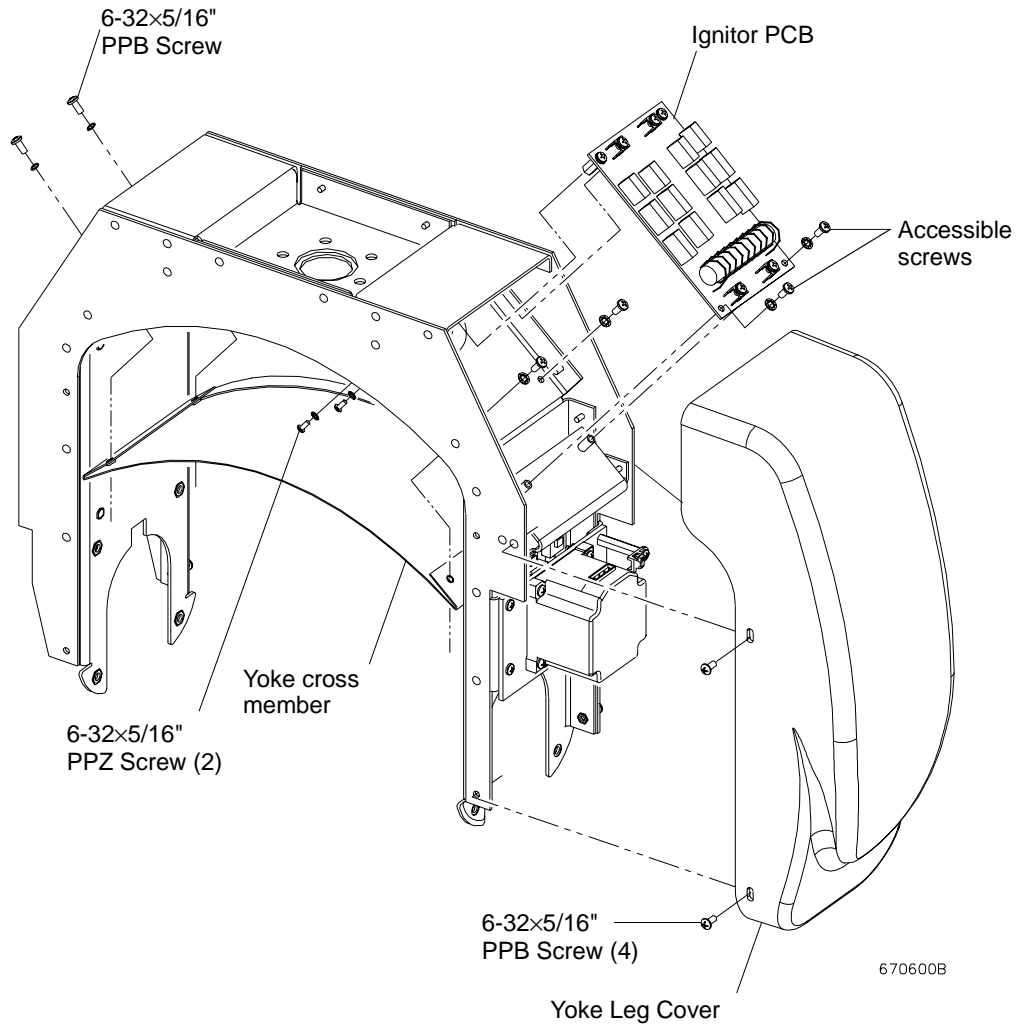

Figure 2-19: Ignitor PCB Replacement
- Step 2. At each yoke leg, remove yoke leg cover by removing four 6-32×5/16" PPB screws. **Figure 2-19.**